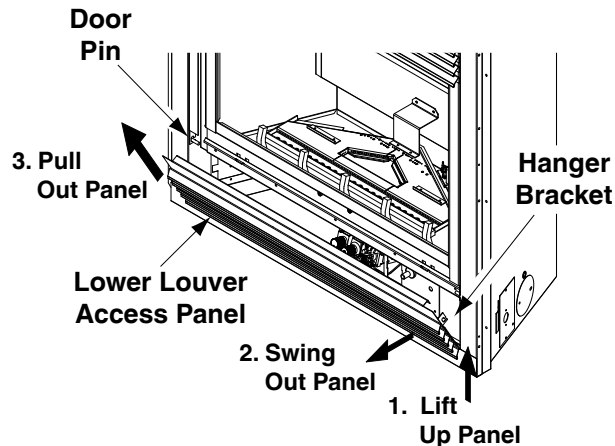

Figure 53 - Removing Lower Louver Access Panel
1. Grasp the lower louver panel and pull up until the hanger brackets release from the door pins (see **Figure 53**).
1. Remove the lower louver panel (see *Removing Lower Louver Access Panel*, **Figure 53**).
2. Position the holes on the bottom of the rear log over the pins on the base log **Figure 53**).